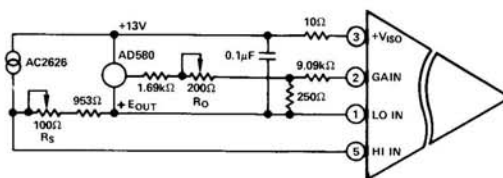

Figure 16. Isolated Temperature Measurements
**Isolated Temperature Measurements:** Industrial temperature measurements are often performed in harsh environments where line voltages or transients can sometimes be impressed on the temperature sensor. To provide protection for the delicate recording instrumentation, models 290A and 292A can be applied as shown in Figure 16. The Analog Devices' AC2626 probe is a temperature sensor whose output is a current directly proportional to absolute temperature. The isolation amplifier provides the isolated power ( $+13V$  dc) as well as the input/output isolation. Zero calibration is performed by placing the AC2626 probe in a zero temperature bath and adjusting  $R_O$  for  $E_O$  to 0 volts. Full scale output adjustment is performed by placing the AC2626 probe in boiling water ( $100^{\circ}C$ ) and adjusting  $R_S$  for 1.000V output.